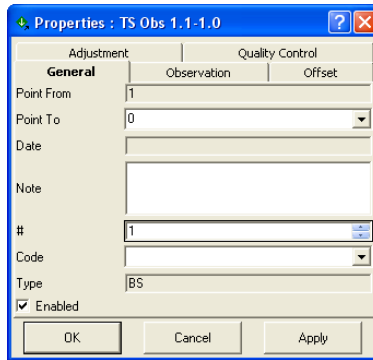

Figure 5-102. General Properties
2. View or edit *General* tab fields (Figure 5-102 on page 5-72).